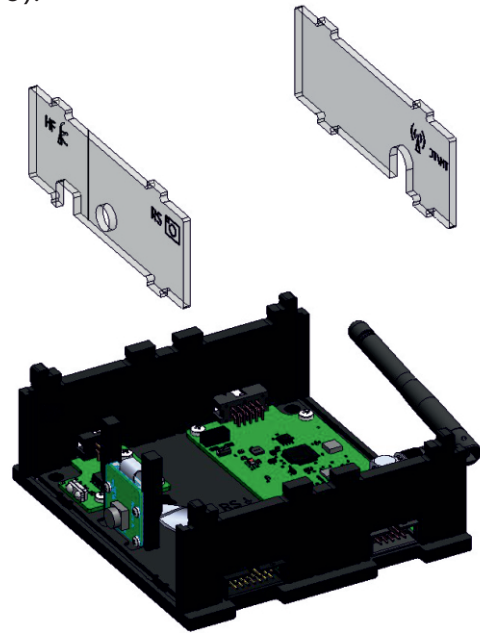

Fig. 30: Mounting transparent panels
7) Secure two transparent panels to the bottom base plate. To do that, slide panels along guide rails in walls until they touch the bottom base plate, then latch them (Fig. 30):